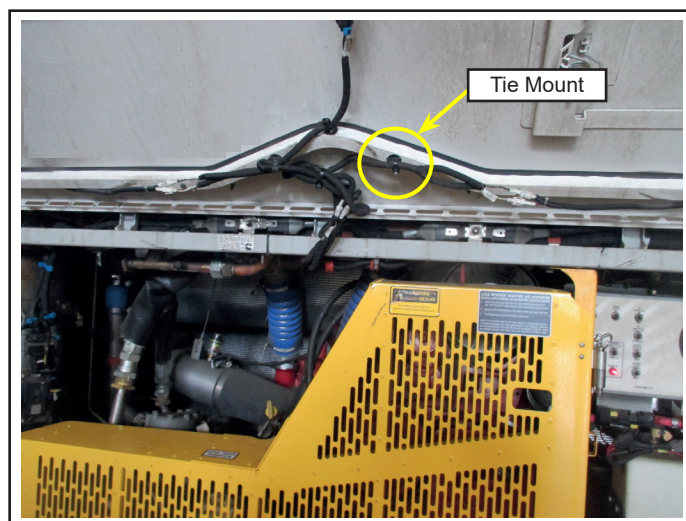

Figure 12 - Removal of Tie Mount
- 1.14. Remove and discard the tie mount (see figure 12).